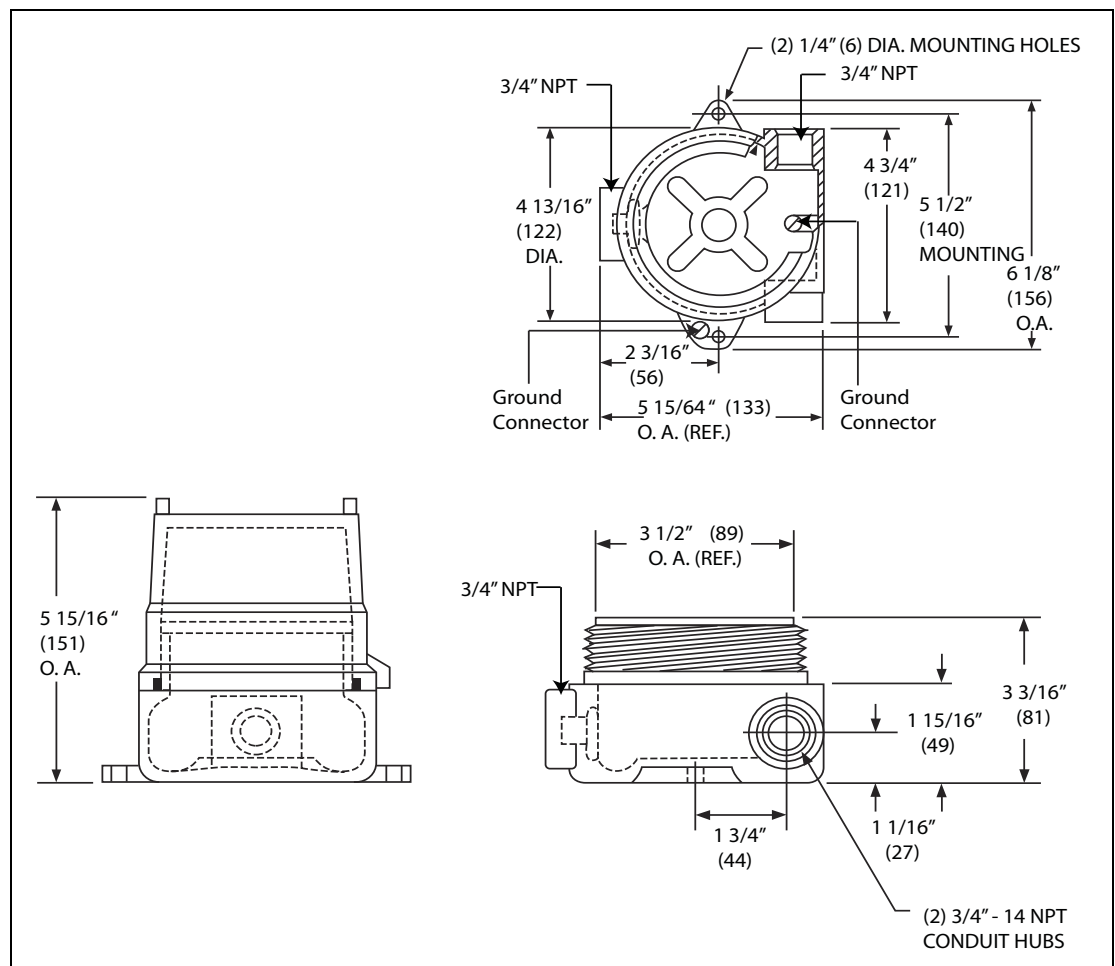

Figure 2-1: 8410 Wireless Field Transceiver Dimensions
2. There is sufficient space to install the transmitter and accessories, such as conduit and cabling. Refer to Figure 2-1 for housing dimensions.